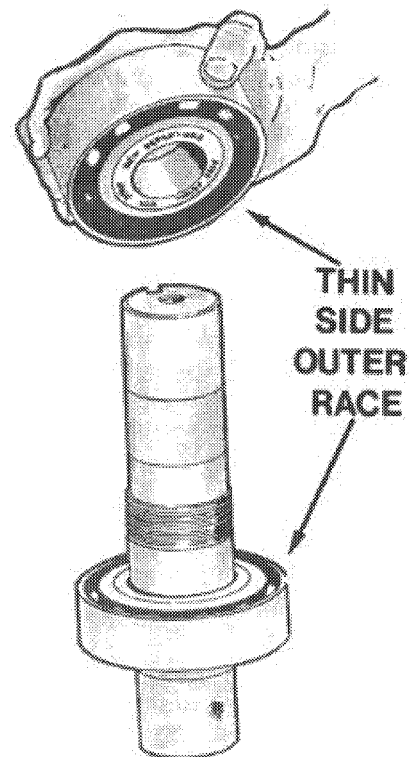

Fig. 4 S Frame Stub Shaft showing sequence of mounting bearings.
- a. Clean the frame (228) and bearing end cover (109) and install the grease seal (333) with the lip out.
- b. The S frame uses angular contact (duplex) bearings mounted in the face-to-face configuration (thin edges of bearing outer race together). Install the bearings (112) on the stub shaft (380) so the thick outer race of the first bearing goes on first and thick outer race of the second bearing goes on last. Install the bearings using a driving sleeve or a bearing press. Drive inner race of bearing only. (Figure 4)
- c. Thread the bearing locknut (136) on stub shaft (380) and tighten firmly.
- d. Place wave washer (529) in the bottom of the bearing frame (228).
- f. Install the bearing end cover (109) and gasket (360) and tighten bearing cap bolts (370N) evenly. The bearing cap should be installed with the grease relief fitting (113) at the bottom.